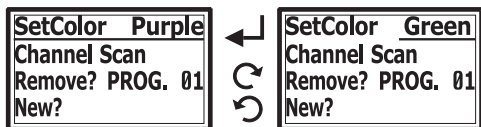

Fig. 20
(L) SetColor function, Fig. 20: